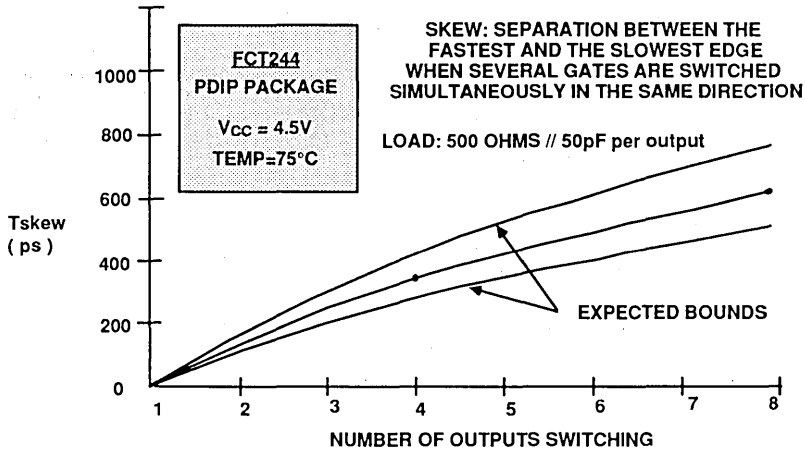

Figure 6. Effect of Simultaneous Switching on Output Skew
3. The phenomenon described in (2) also causes a skew or a separation between edges of several outputs switching simultaneously. This skew is a function of the number of outputs switching. Figure 6 shows the effect of simultaneous switching on output